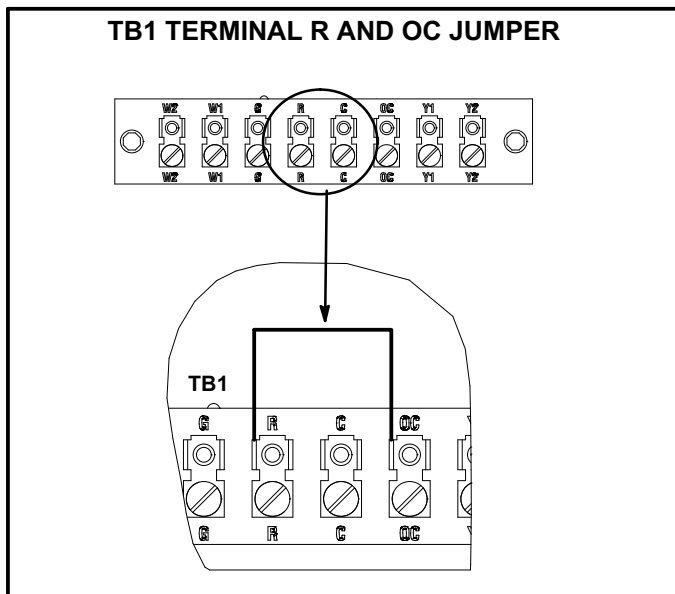

FIGURE 25
*NOTE - A jumper is factory-installed between TB1 R and OC terminals to maintain occupied status (allowing minimum fresh air). See figure 25. When using an electronic thermostat or energy management system with an occupied/unoccupied feature, remove jumper. Make wire connections to R and OC as shown in literature provided with thermostat or energy management system literature. Either the jumper wire or optional device must be connected to R and OC for the economizer to function.*